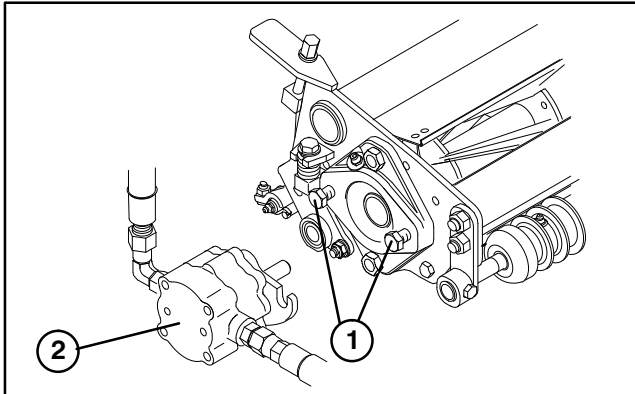

Figure 10
7. Assemble the mounting capscrews for the reel drive motor to each cutting unit. Leave approximately 1/2 in. of threads exposed on each mounting capscrew (Fig. 10).
10. Coat the spline shaft of the motor with clean grease and install the motor by rotating the motor clockwise so the motor flanges clear the studs. Rotate the motor counter-clockwise until the flanges are encircling the studs and tighten the mounting capscrews (Fig. 10).